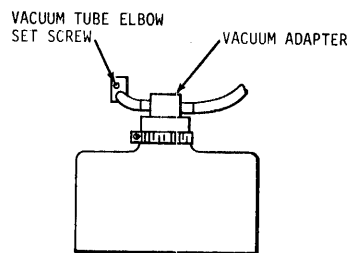

Figure 6-10. Removal of Vacuum Tube Adapter
- e. Using a .050 Allen wrench, LOOSEN the set screw in the vacuum tube adapter elbow located on the underside of the mainframe, figure 6-10. Remove the elbow from the sleeve. Prop open the hopper using about 1" of cards inserted at a right angle.